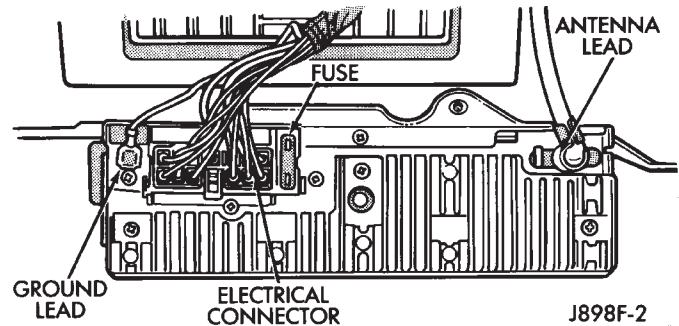

Fig. 6 Radio Wiring Remove/Install - XJ
- (5) Slide radio chassis out of instrument panel far enough to disconnect radio electrical connector, ground lead and antenna lead (Fig. 6). Remove radio from instrument panel.